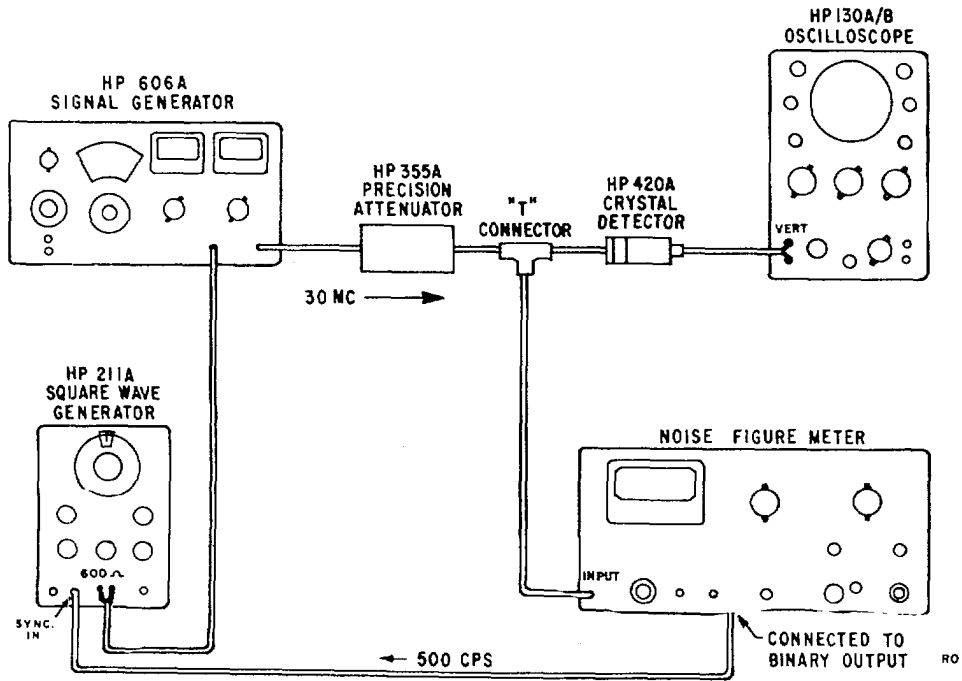

Figure 4-4. Test Setup for Meter Tracking
- 5) an oscilloscope with a high sensitivity of 1 millivolt/cm, such as an - Model 130B. Equipment connection is shown in _Figure 4-4
1) Remove the rear cover of 342A. Connect equipment as shown in Figure 4-4; turn on equipment and allow warm up period of 30 minutes.